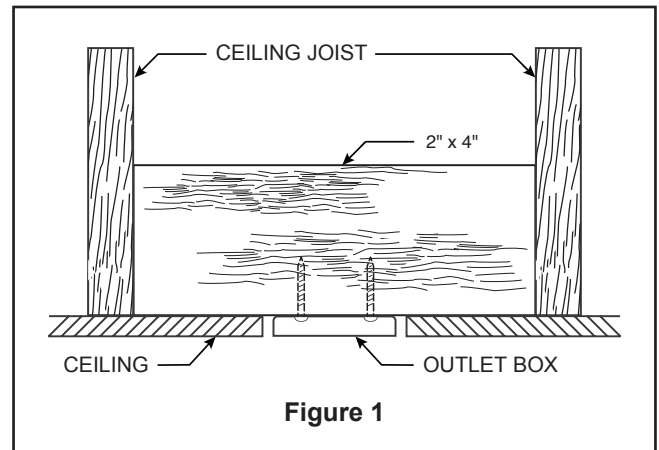
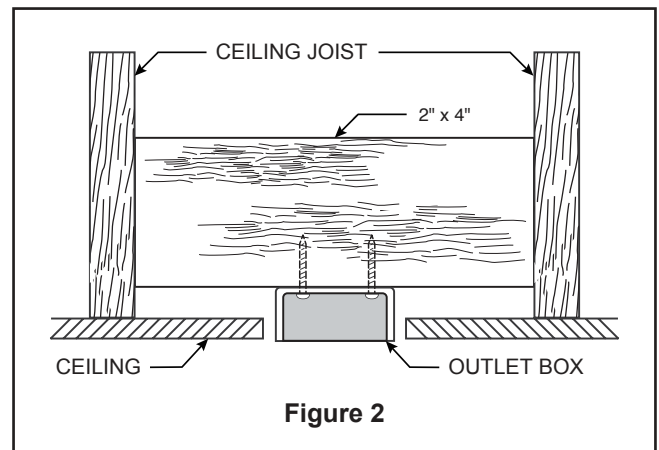
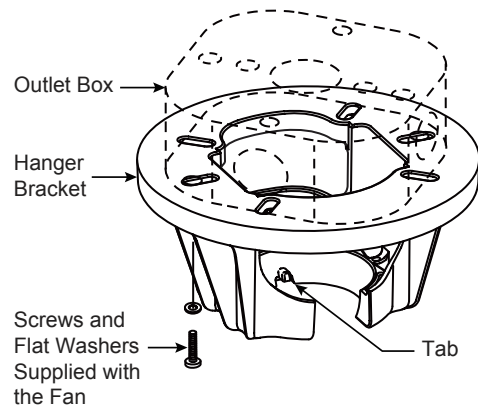

Figure 1
Figure 2
Figure 3
Your new ceiling fan will require a grounded electrical supply line of 120 volts AC, 60 HZ, 15 Amp Circuit. Electrical code requires use of a fan-rated outlet box to support the extra weight and motion associated with a ceiling fan. A fan-rated outlet box will be labeled as such and typically supports up to a 70lb ceiling fan. Fan-Rated Outlet Boxes vary in ratings and design. Ensure the ratings of your ceiling fan outlet box meet the requirements for the ceiling fan being installed. Figure 1, Figure 2 and Figure 3 depicts different structural configurations that may be used for mounting the outlet box.
Low profile outlet box (Figure 1)
Deep outlet box (Figure 2)
Deep outlet box with brace (Figure 3)
3. Loosen the two set screws and locking nuts in the downrod support of the motor assembly. Route the brown, blue, red, gray and yellow wires through the downrod. (Figure 3)
1. Securely attach the hanger bracket to the outlet box using the #8-32 outlet box screws and washers supplied with the fan. (Figure 3)
NOTE: Outlet box screws pass through slotted holes of the hanger bracket. (Figure 3)
3. Carefully lift the fan and seat the downrod/hanger ball assembly onto the hanger bracket that was just attached to the outlet box. (Figure 4) Be sure the groove in the ball is lined up with tab on the hanger bracket. (Figure 3)
- 2. Slide the receiver into the hanger bracket before wiring as shown in figure 3.